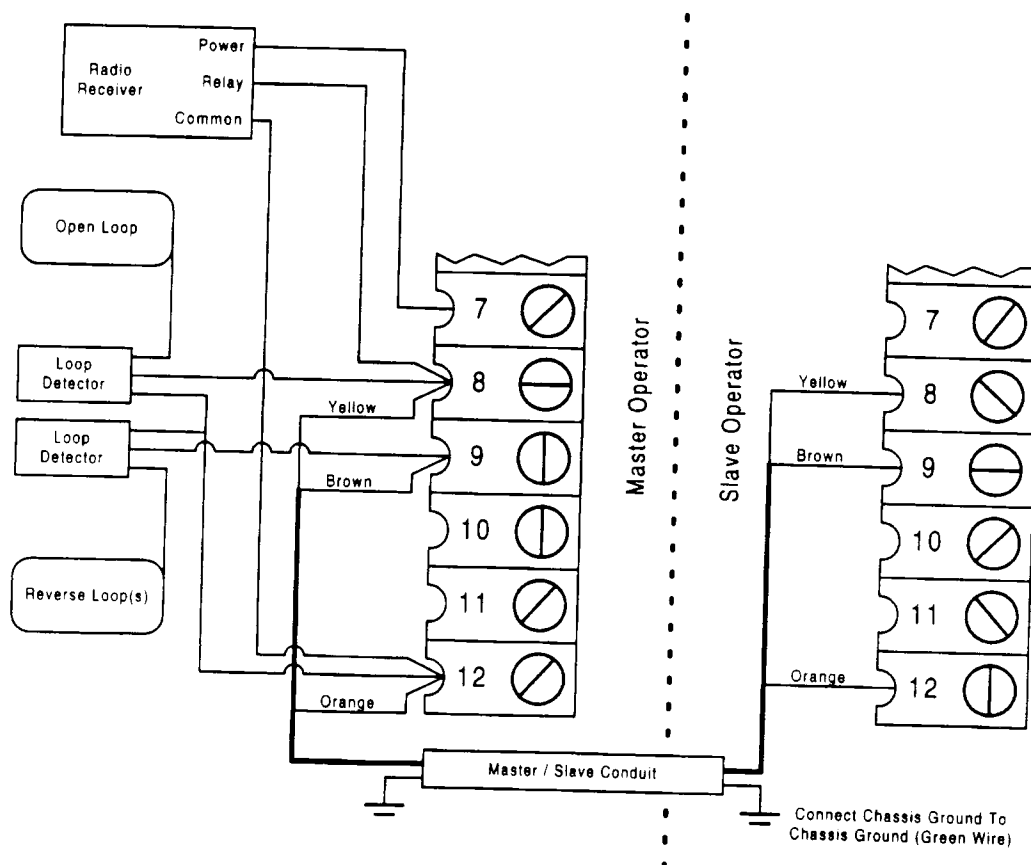

FIGURE 2.6
1. Connect the master / slave wiring (terminals 8, 9 and 12) as shown in figure 2.6. Be sure that power to both operators is OFF. Be sure to ground the operators!
2. Connect the common (C) and normally open (N.O.) relay contacts from the OPEN loop detector to terminals 8 and 12.
3. Connect the common (C) and normally open (N.O.) relay contacts from the REVERSE loop detector to terminals 9 and 12.